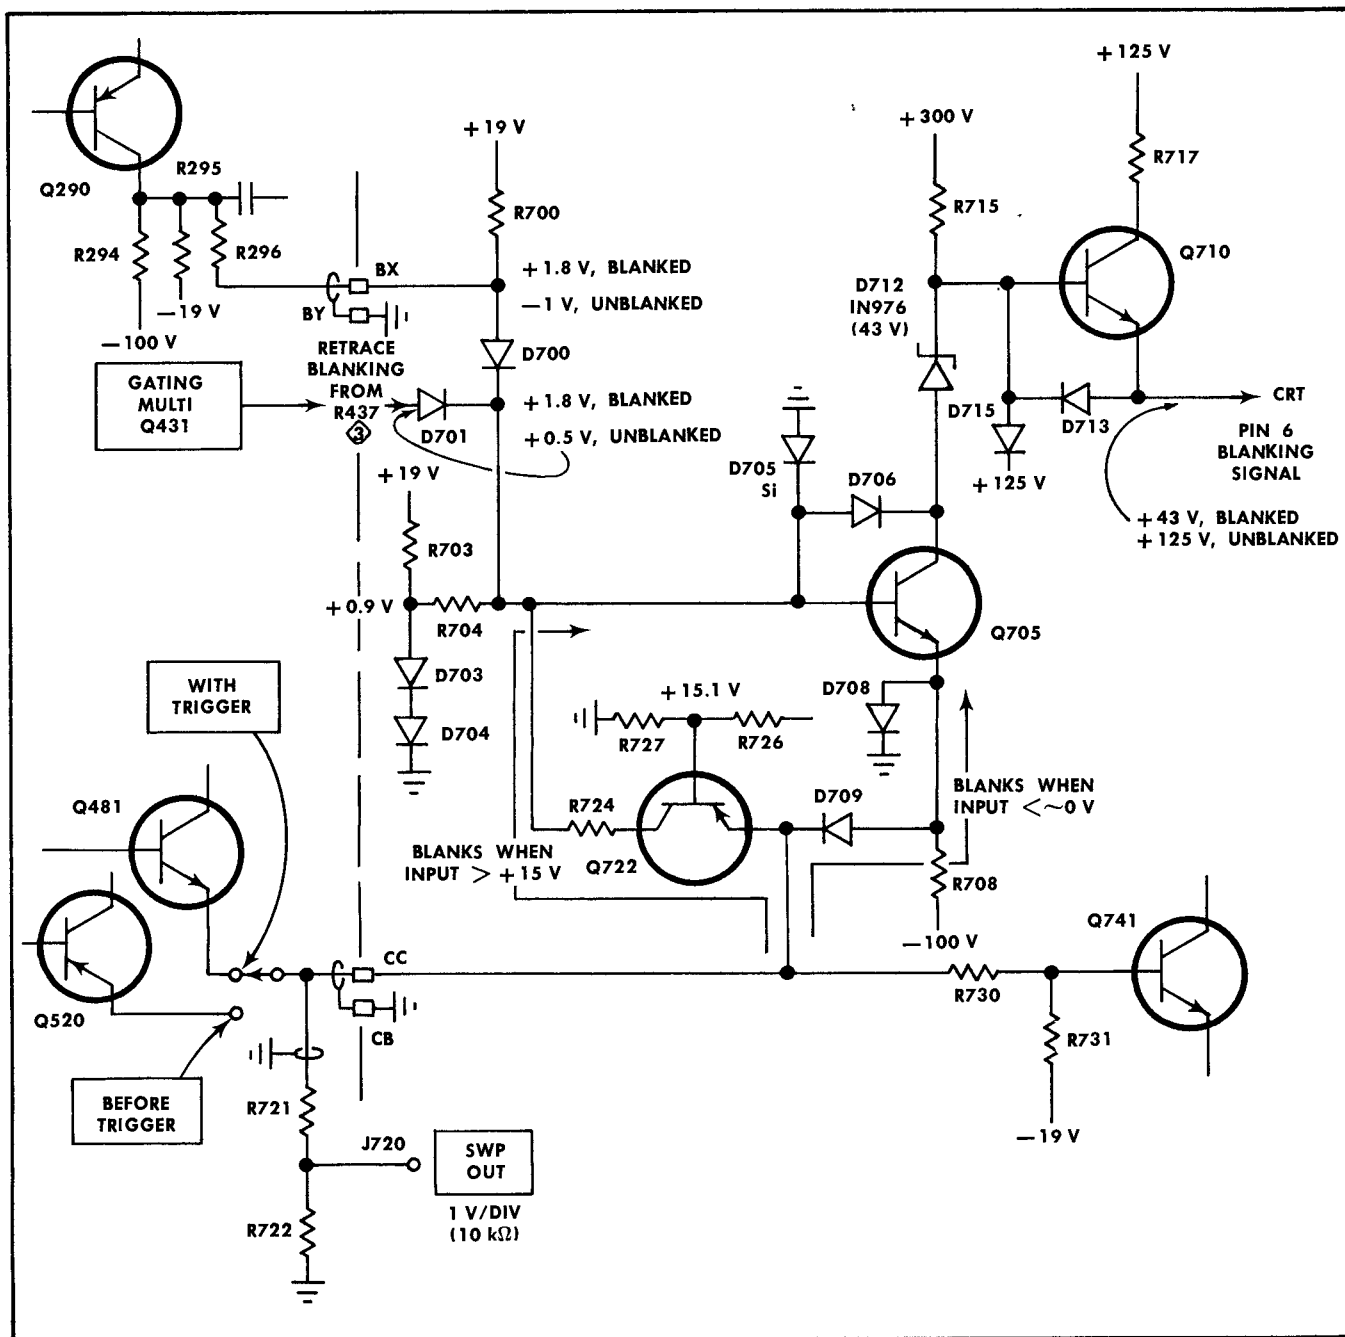

Fig. 4-19. Type 3T2 Blanking circuits.
**Overscan Blanking.** See Fig. 4-19. Q705 normally conducts only 1 mA of current, set by: D703-D704 which set Q705 base voltage at +0.9 volt, and 100 k $\Omega$  emitter return resistor to the -100-volt supply. At 1 mA current, D712 cathode voltage would be at +200 volts, except that D715 limits the positive value to +125 volts, and D712 limits Q705 collector to +82 volts. Q710 will conduct any stray CRT deflection blanking electrons to the 125-volt supply, but is considered at cutoff as far as the blanking circuit is concerned.
**Interdot Blanking.** Fig. 4-19 shows the Vertical Strobe Driver circuit connections to the blanking circuit. The voltage divider, R296-R700, sets D700 anode voltage at about -1 volt when the CRT dot is in view, and at about +1.8 volt when